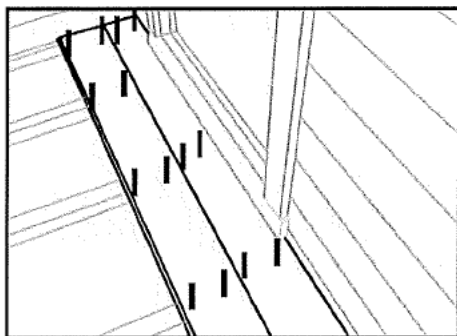

FIG 18
12. On the underside of the outside corners (fig 18) neatly cut, fold and secure using 1x felt nail.